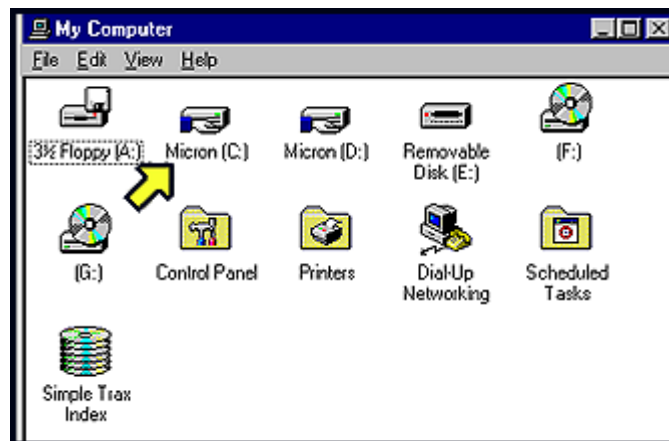

Figure 13
- 117 On the "My Computer" screen, select the "Micron (C)" drive icon. See the arrow in Figure 13.